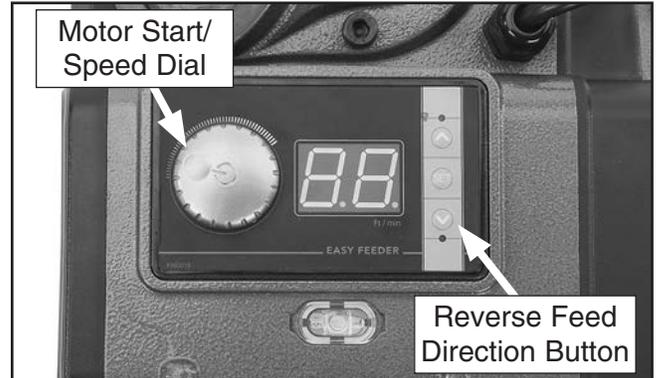

Figure 21. Location of reverse feed direction button.
7. Press motor start/speed dial (see **Figure 21**). Rollers should stop rotating.
8. Press reverse feed direction button  shown in **Figure 21**, then press and hold motor start/speed dial until you hear a beep and control panel glows red. Rollers should rotate in clockwise direction (when viewed from the top).